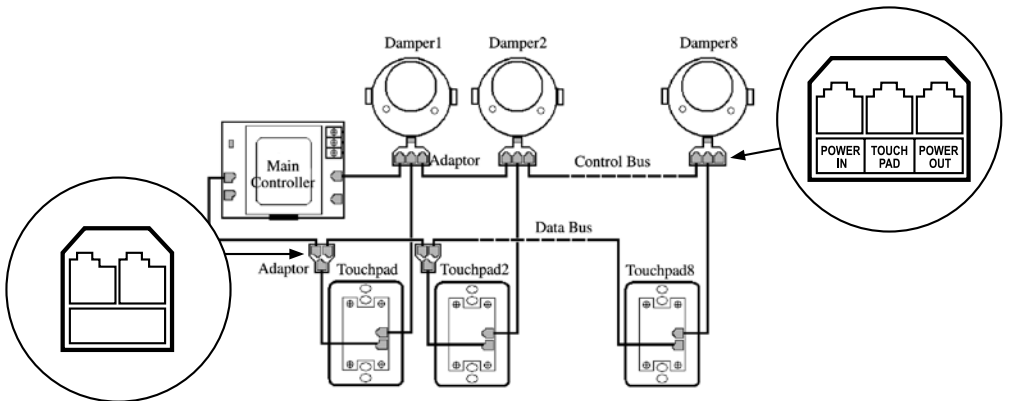

Figure 2. Wiring diagram of Zone 1 to Zone 8
Zonemaster VAV is a serial bus based system which has a Control bus and Data bus. **The Control bus** provides 24VAC power for up to 8 Dampers via the main controller as shown in Fig 2.
- 5) Use two pre-tested data cables to connect the main controller (touchpad 1-8 socket) and a touchpad via a double left latched adaptor, as shown in Figure 2. The LCD on the touchpad should show the clock after setting a unique address to the touchpad. (Refer to the commissioning section) Otherwise, check the connection and the cables.
6) Repeat step 5) to connect all the touchpads according to Figure 2 and 3. Make sure every touchpad is working correctly by checking the clock and the temperature displayed on the touchpad.
9) Follow Step 8) to connect all motorised dampers in series as shown in Figure 2.
11) Follow step 10) to connect all the dampers and touchpads together as shown in Figure 2.